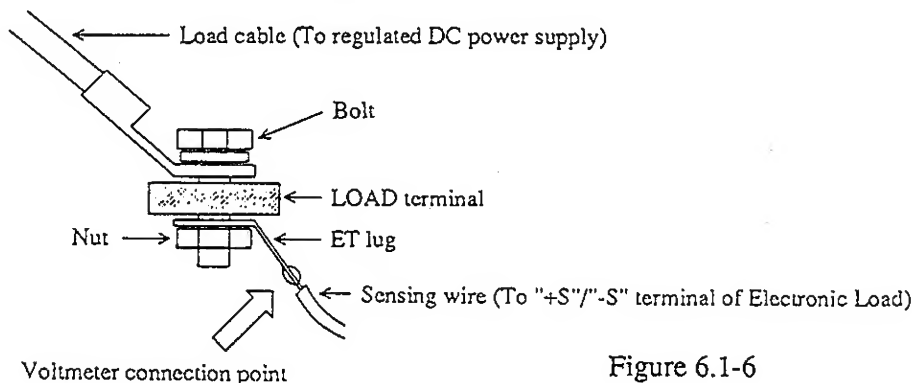

Figure 6.1-6
- For connection of cables to the LOAD terminals, see Figure 6.1-6.